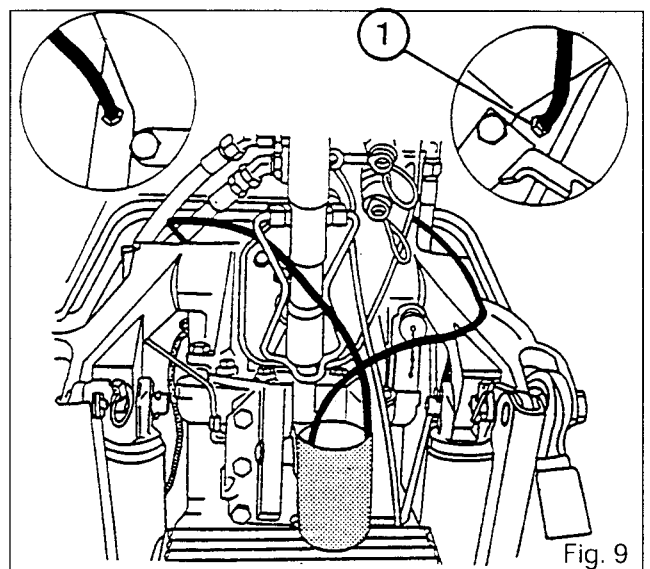
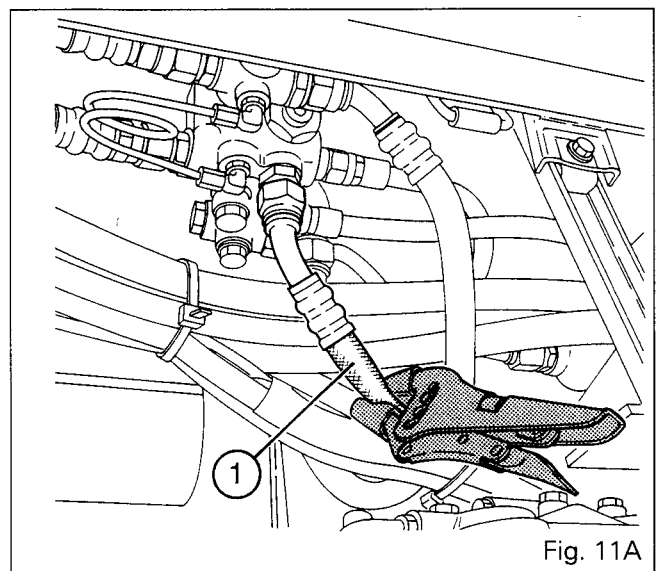

Fig. 9
Fig. 11A
22. To each vent screw (1) on the left and right hand of the rear axle housing attach a transparent hose (int. dia. 6 mm) (Fig. 9).
23. Immerse the ends of the two hoses in a container partially filled with transmission oil (Fig. 9).
24. Run the engine at approximately 1,200 rpm. Using suitable protection, clamp the return hose or hoses (1). See the following figures according to the serial number :
- Fig. 11A: up to serial number D086000 (Std) and D115016 (dipping hood)